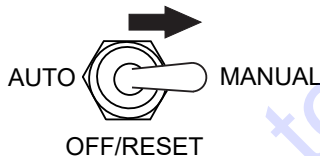

Figure 92. Auto-Off/Reset Switch
2. While keeping the **Hour Check Button** pressed, place the **Auto Off/Reset Manual Switch** (Figure 92) in the **MANUAL** position.